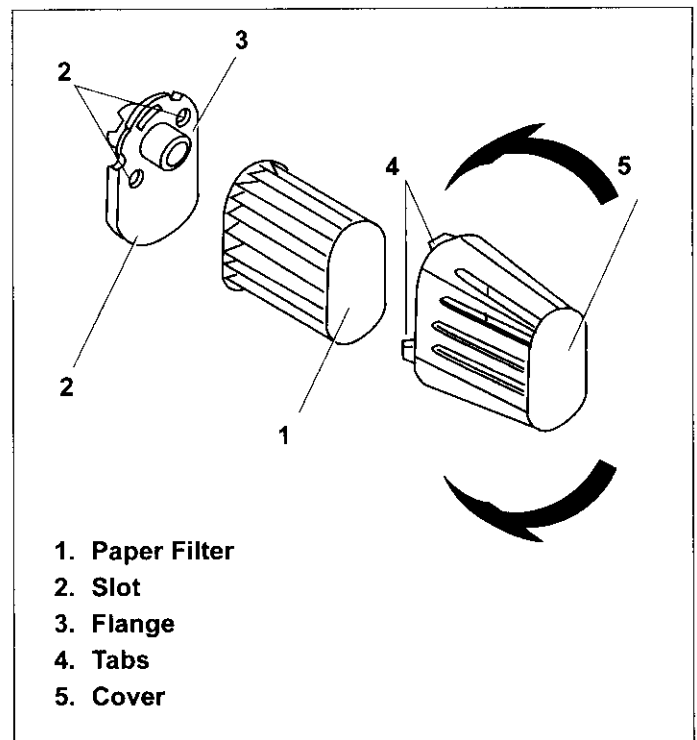

Figure 29. Air Cleaner Type "E" Assembly
1. Turn cover to right (clockwise) to remove. See Figure 29.